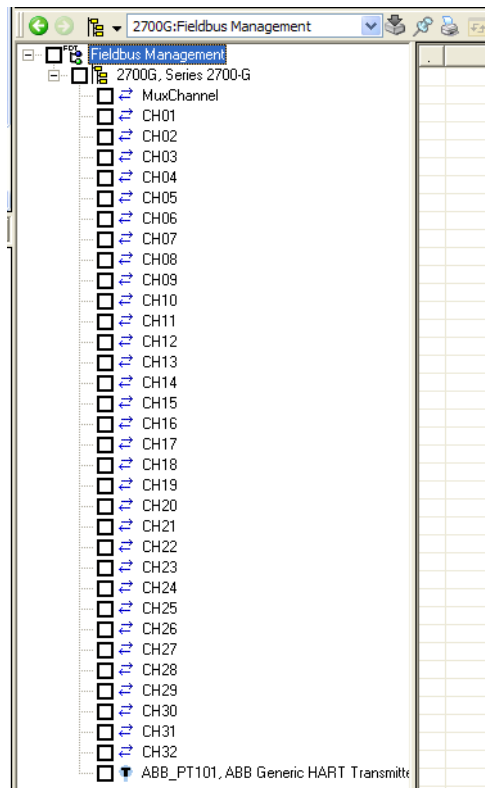

Figure 81. Fieldbus Aspect View
5. All positioned field devices, together with the channel information from the Multiplexer objects appears in the partial tree, as shown in Figure 81.